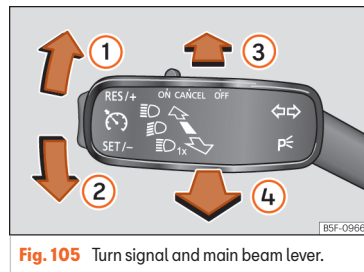

Fig. 105 Turn signal and main beam lever.
- From the base position, press the turn signal and main beam headlights lever forwards  **Fig. 105** .
- **EITHER:** if main beam assist is on, pull the turn signal light and main beam headlights lever back  **Fig. 105** .